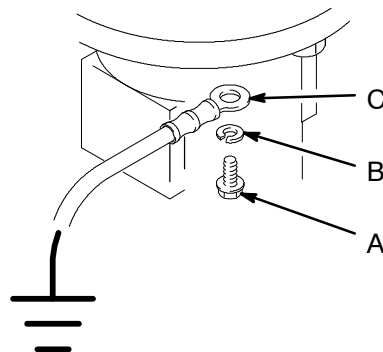

Fig. 1
To ground the agitator, remove the grounding screw (A) and lockwasher (B). See Fig. 1. Secure the ground wire terminal (C) to the agitator with the screw and lockwasher. Connect the other end of the ground wire to a true earth ground. Order Part No. 237569, Ground Wire and Clamp.